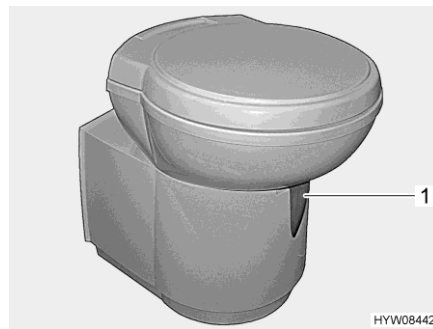

Fig. 217 Thetford toilet bowl (swivelling)
- Before flushing open the sliding trap of the Thetford toilet. To do this, push the slide lever (Fig. 217,1) in an anticlockwise direction.